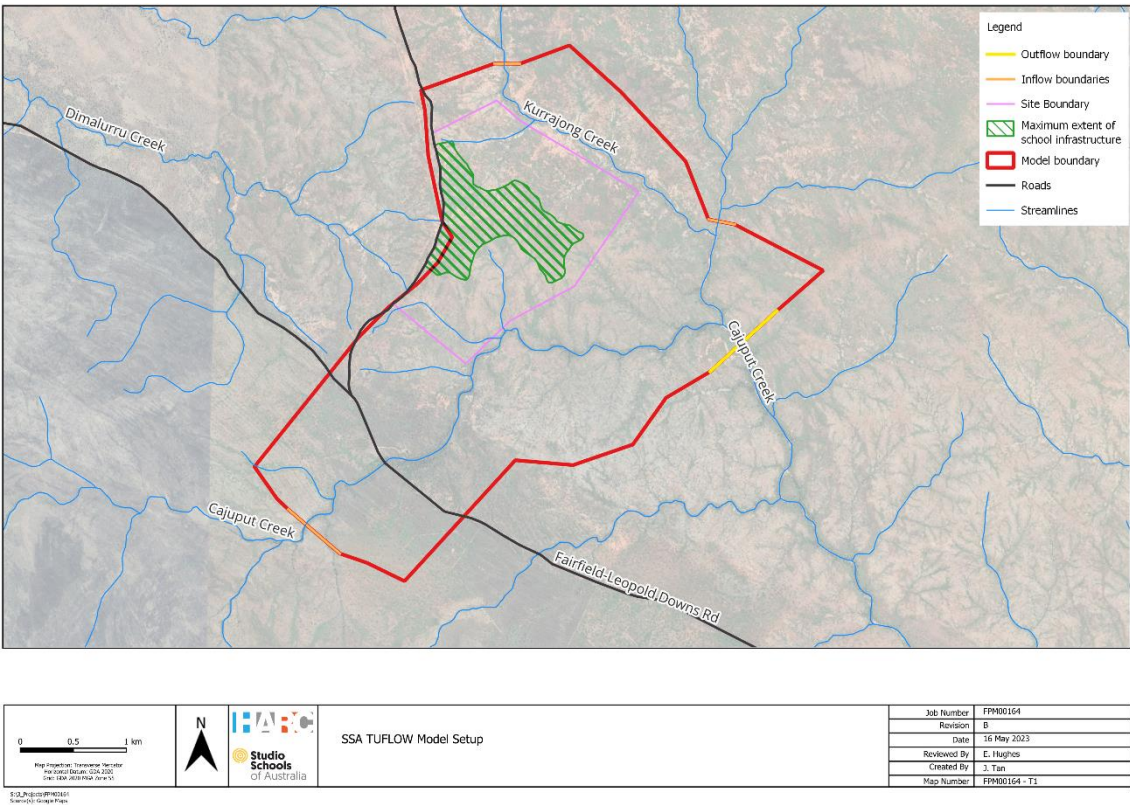

Figure 4-1: SSA TUFLOW Model Setup
Hydraulic modelling in the two-dimensional TUFLOW hydrodynamic modelling package was used to determine the flood extent for a range of AEPs at the SSA site. The peak flows generated by RORB were input into the hydraulic model as steady state flows to determine the maximum flood extent for each AEP. Figure 4-1 shows the model's layout including the inflow and outflow locations, which are located where main streams intersect the model boundary.
Inflows were applied as steady state inflows at the upstream boundaries of the hydraulic model (Figure 4-1). The downstream boundary of the model was represented through an automated stage discharge relationship (HQ), which was based on a surface slope of 0.0024